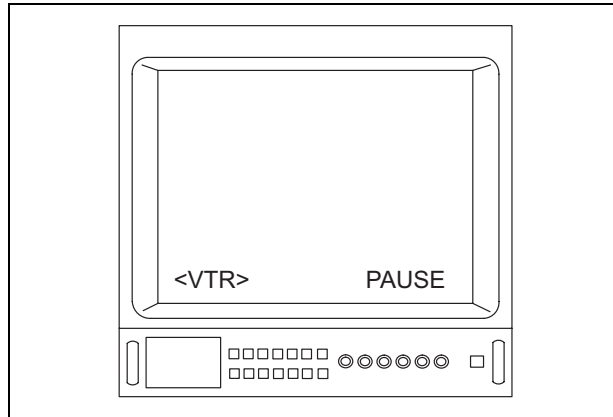

Figure 5.88
3. To pause while recording, press the remote control switch on the camera head or videoscope again. The menu shown in Figure 5.88 is displayed on the video monitor.
3. To pause while recording, press the "F5" key again. The menu shown in Figure 5.88 is displayed on the video monitor.